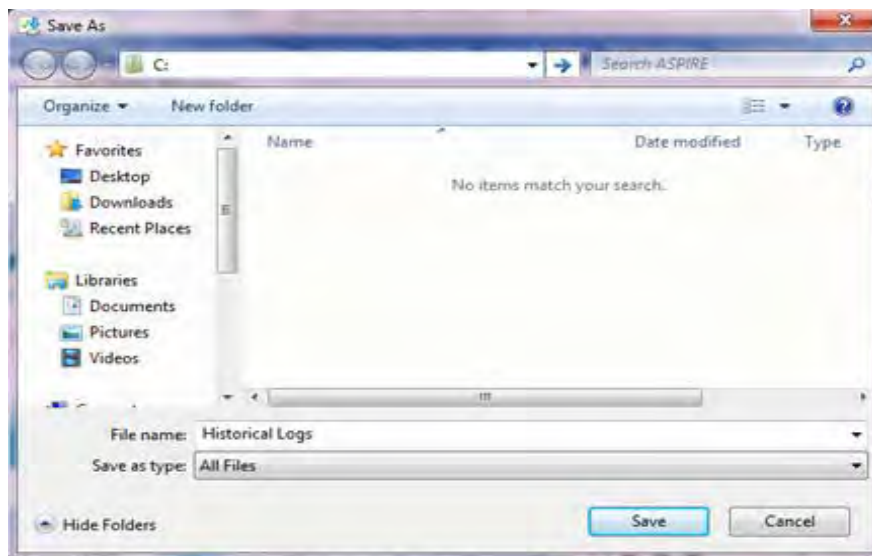

Figure 3-21. JetWave™ Fault Log Download Page
- (6) To download the fault log data for analysis and trouble shooting, press the “Download” button. The window as shown in Figure 3-21 will come into view. Save to the computer to open and view the fault log.